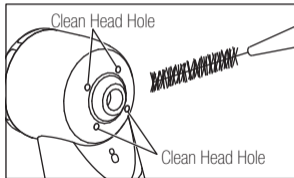

Fig. 5
- 1) Scrub dirt and debris from the handpiece, and wipe clean with alcohol-immersed cotton swab or cloth. (Fig. 5) Do not use a wire brush.